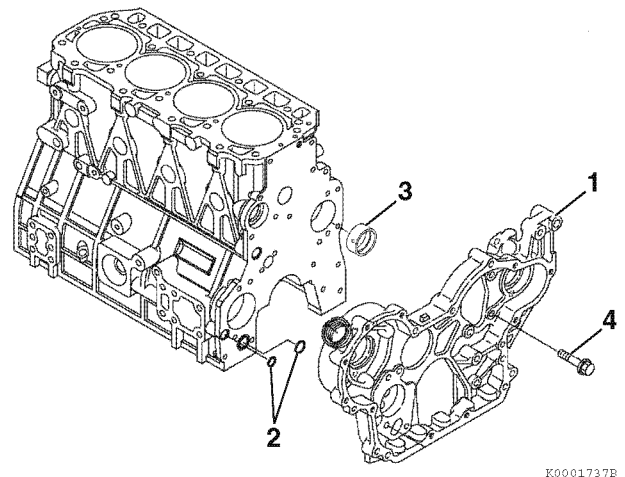

Figure 6-51
- Remove the bolts (Figure 6-51, (4)).
- Remove the gear case (Figure 6-51, (1)) from the cylinder block. Thoroughly clean all old sealant from the mating surfaces.
- Inspect and measure the camshaft bushing. See Camshaft on page 6-7 for the service limit. If damaged or worn beyond service limits, remove the camshaft bushing (Figure 6-51, (3)).
- 4TNV98C, 4TNV98CT: Remove two O-rings (Figure 6-51, (2)).